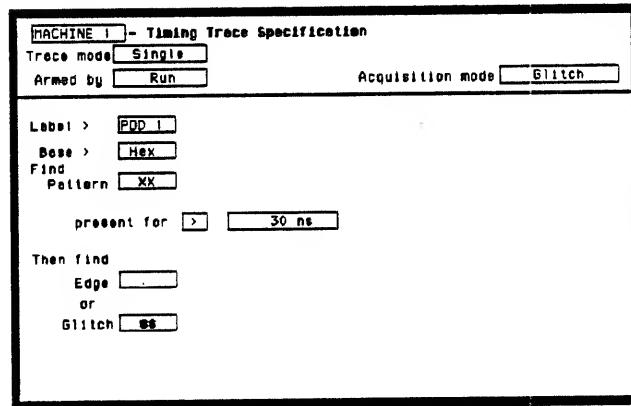

Figure 3-33. Glitch Test Timing Trace Specification
5. Set Timing Trace Specification as in figure 3-33. Follow steps a through c if